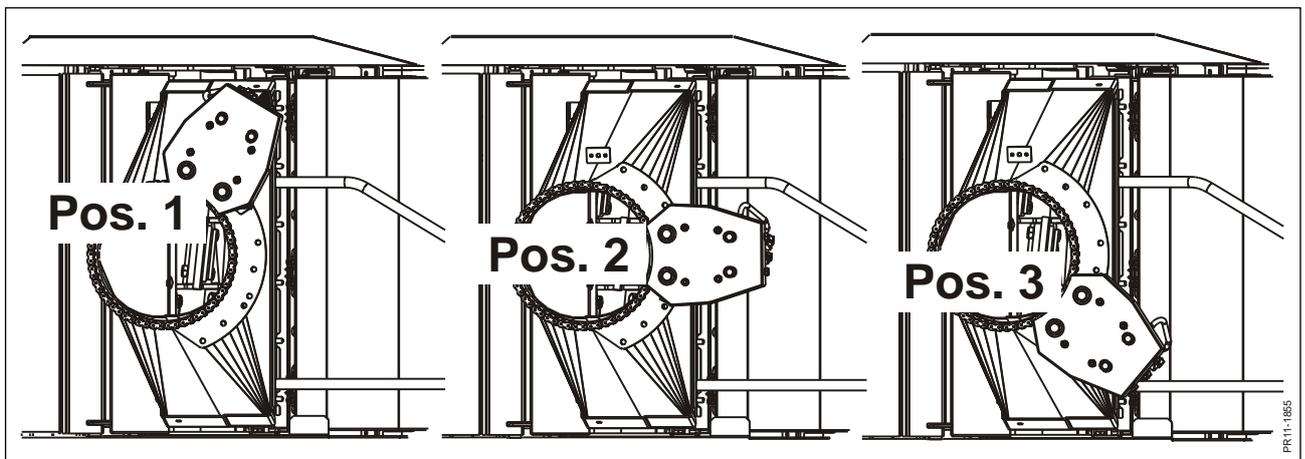

Fig. 3-12
- Fig. 3-12 Pos. 1 for unloading to the right